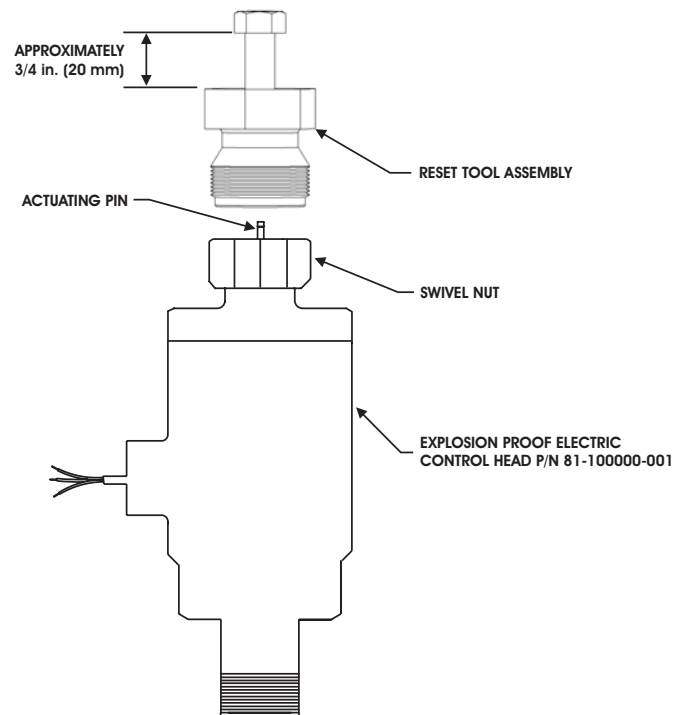

Figure 2. Installing the Reset Tool Assembly
1. Back the screw out of the body of the reset tool assembly so that approximately 3/4 in. (20 mm) of the screw is exposed from the body. See Figure 2.